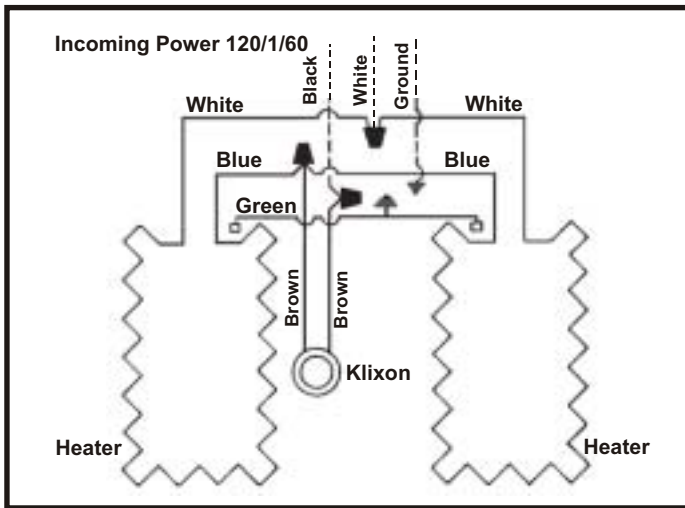

Fig. 8
- E. Caulk around the perimeter of the opening, and replace the pressure relief port. Rewire and replace the junction box cover. Reconnect electrical power. See Fig. 8.